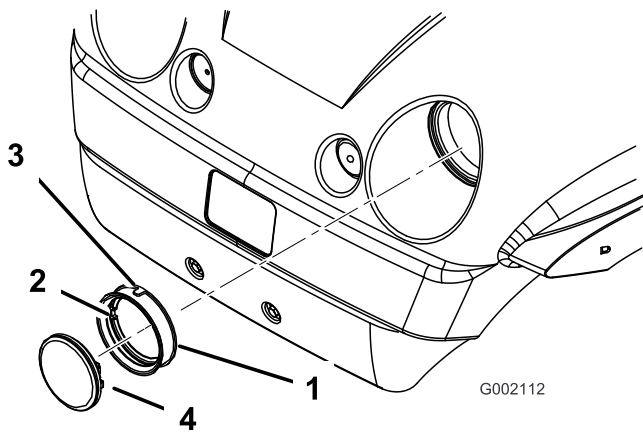

Figure 39
4. Remove the rubber seal from around the headlight (Figure 39). Discard the headlight.
- Align the notch on the inside of the seal with the notch on the new headlight (Figure 39). Slide the seal onto the headlight until the seal is firmly in place.